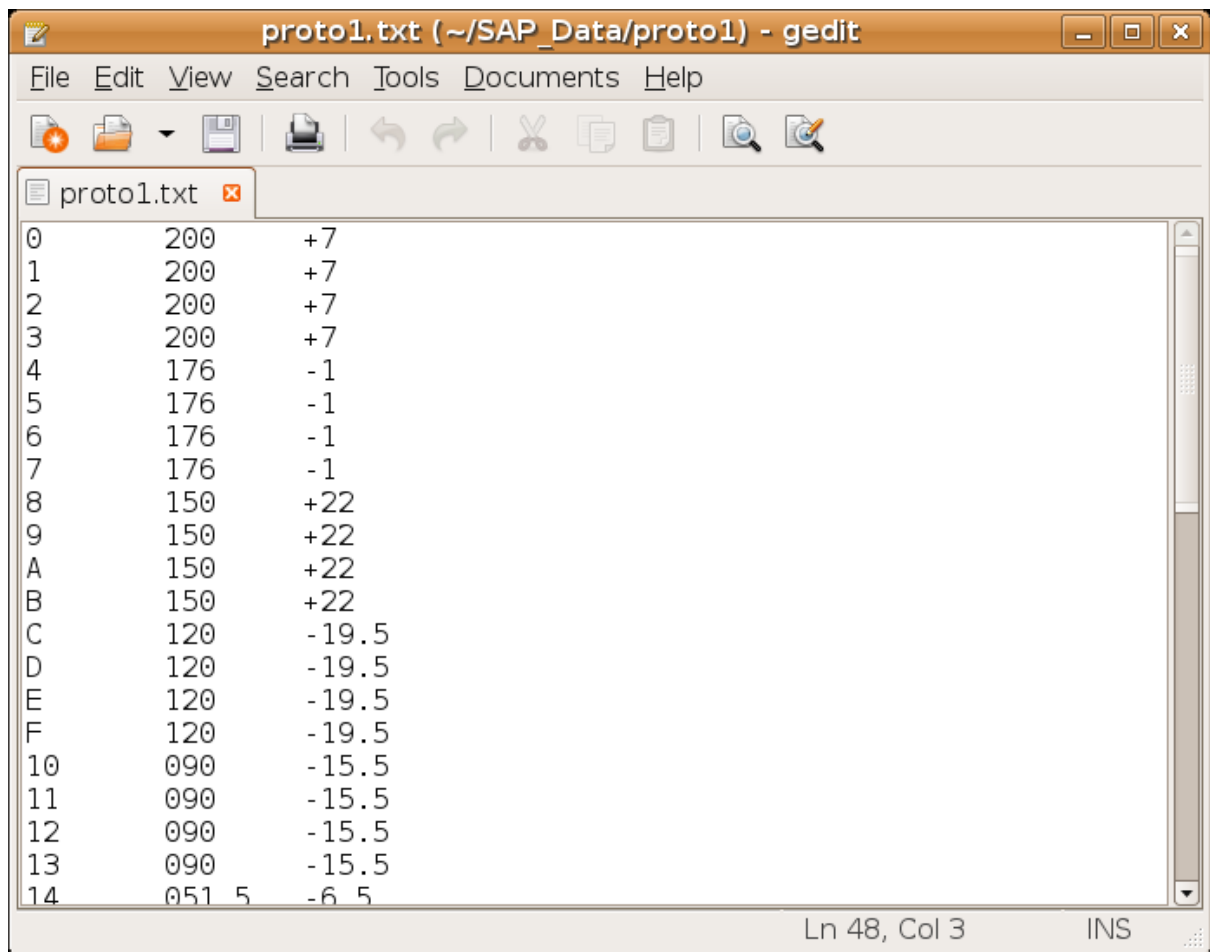

Figure 1: How to enter the calibration data. Note that the compass and clino readings come in groups of four
8. You should now have 48 separate readings. You need to enter these into a text file (Windows users use Notepad, Linux users use your favourite text editor). Each line should represent one of the legs. Enter the leg number, compass reading, and clino reading, in that order, separated by tabs. See Figure 1 on page 6 for an example.